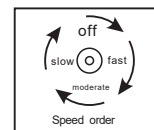

Figure 19
1. Adjust the fan speed: pulling speed switch on the switch box, pulling the first lower for quick file, Pull down to second gear speed, driving under a slow third gear, the fourth under the ceiling fan stopped pulling Stopping the rotation (Figure 19).